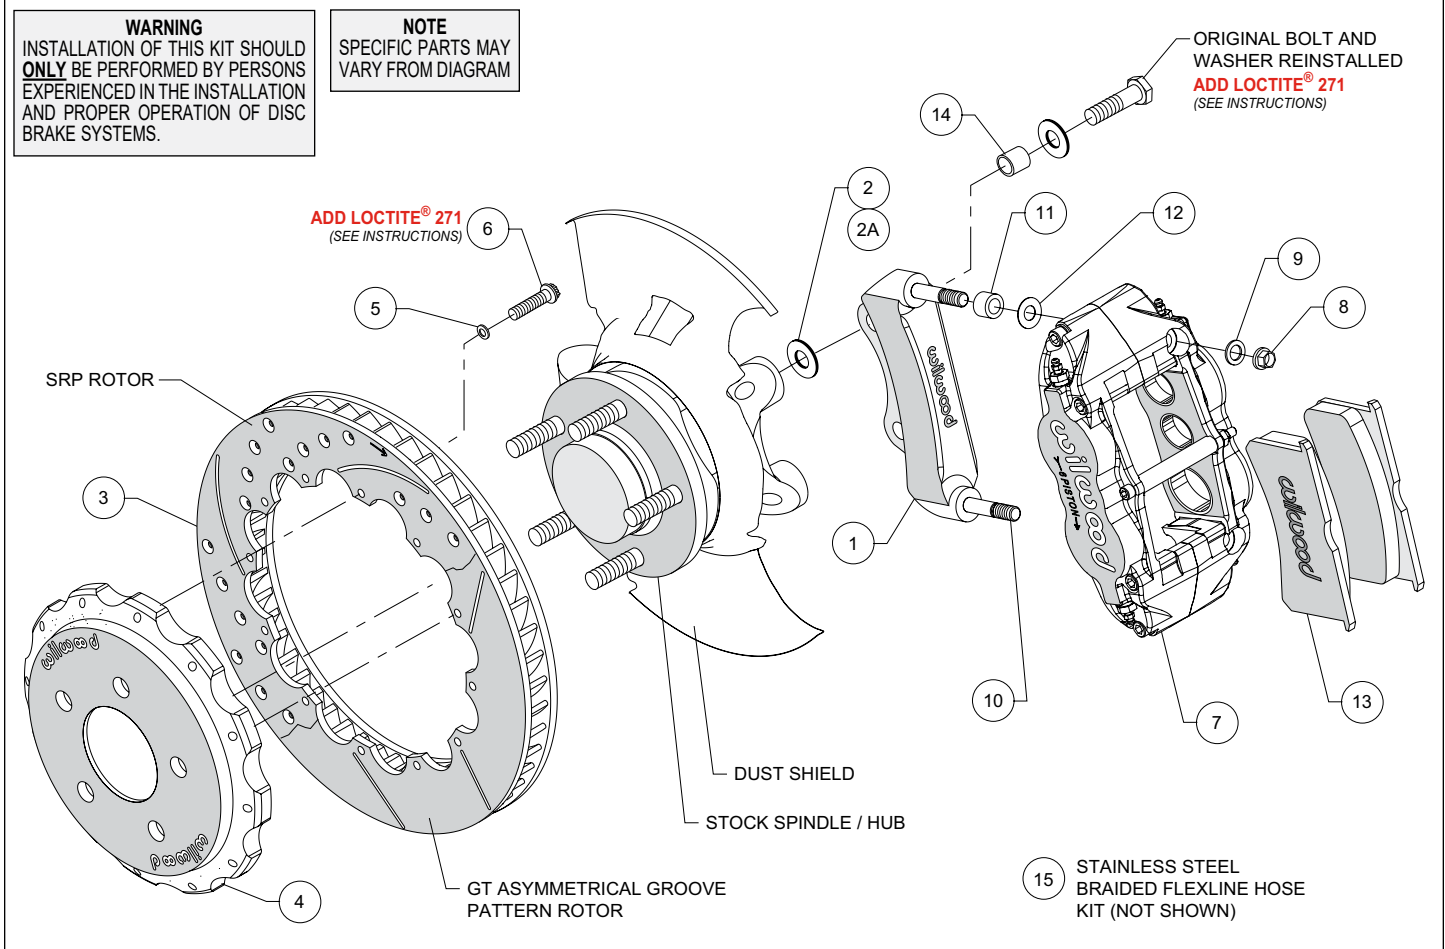
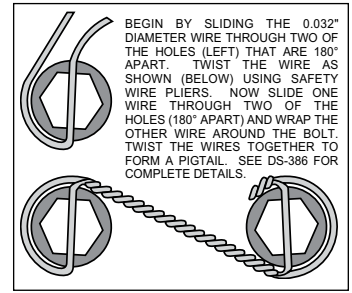

Figure 1. Typical Installation Configuration
Figure 3. Safety Wire Diagram
Assembly Instructions (numbers in parenthesis refer to the parts list/diagram on the preceding page, and Figure 1):
- The caliper mounting bracket assembly (1) should be installed first with clean, dry threads on the mounting bolts. Install the bracket from the rear side of the spindle by sliding the original stock bolts through washer, sleeve (14) (sleeve only utilized on 2004 model year), and bracket (1). Place shim washer (2 or 2A for 2004 model year) between the bracket (1) and the spindle (see Figure 1). The bracket must tighten squarely against the side of the spindle body. Inspect for interference from casting irregularities, machining ridges, burrs, etc. Use one thin shim (2 or 2A) between the bracket (1) and spindle during initial trial fitting.
- Orient the rotor (3) and the hat (4) as shown in Figure 1 and Photo 1. Attach rotor to hat using bolts (6) and washers (5). Apply red *Loctite*® 271 to the bolt threads and torque to 155 **in-lb** using a criss-cross pattern. For an added measure of security, the bolts may be safety wired using standard 0.032 inch diameter stainless steel safety wire as shown in Figure 3. Please refer to Wilwood's data sheet DS-386 (available at www.wilwood.com/Pdf/DataSheets/ds386.pdf) for complete safety wire installation instructions.
- **NOTE:** *This kit contains distinct right and left hand calipers that must be mounted in a specific direction, as described below.* Initially place one .035" thick shim (12) and one spacer (11) on each stud (10) as shown in Figure 1, and Photo 2. Mount the caliper (7) onto the bracket (1) using lock nuts (8) and washers (9), Figure 1. Ensure that the caliper is mounted so that the largest pistons are at the rotor exit end of the caliper, in relation to the direction of rotor rotation. Temporarily tighten the lock nuts and view the rotor through the top opening of the caliper. The rotor should be centered in the caliper, Photo 3. If not, adjust by adding or subtracting shims (2 and/or 2A) between the bracket and the upright. Always use the same amount of shims on each of the two mounting bolts. Once the caliper alignment is correct, remove the bracket mounting bolts one at a time, apply red *Loctite*® 271 to the threads, and torque to manufacturer's specifications.